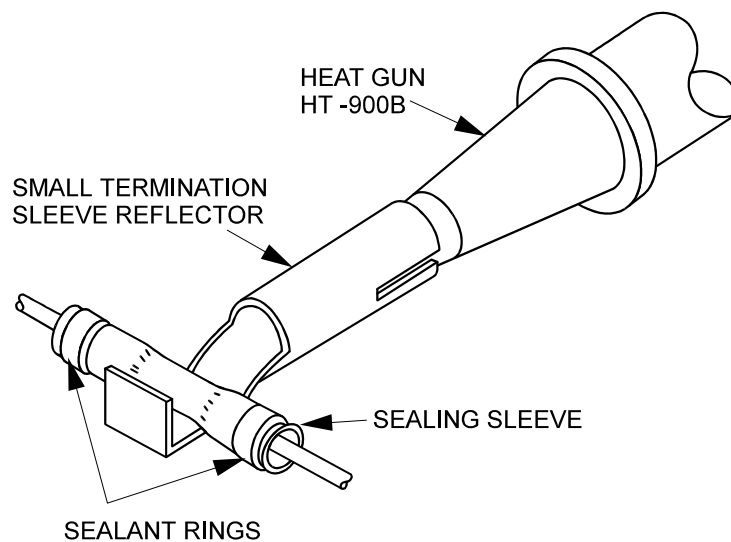

Figure 6-15
- o. Shrink sealing sleeve using a heat gun with a small termination sleeve reflector as shown in Figure 6-15. Start by shrinking the middle then heat towards each end until sealant melts and begins to flow out of both ends. Allow time for sleeve to cool before handling.